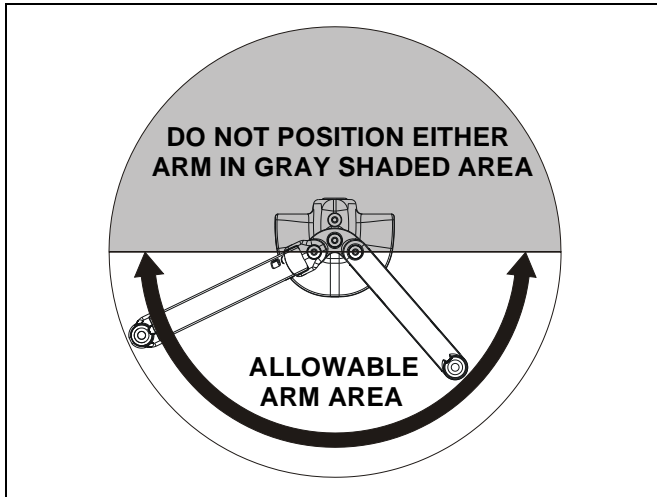

Figure 10: Allowable Arm Area
5. Position desk mount arm within UNSHADED area as shown (See Figure 10). Tighten screw as required using 3/16" hex key.